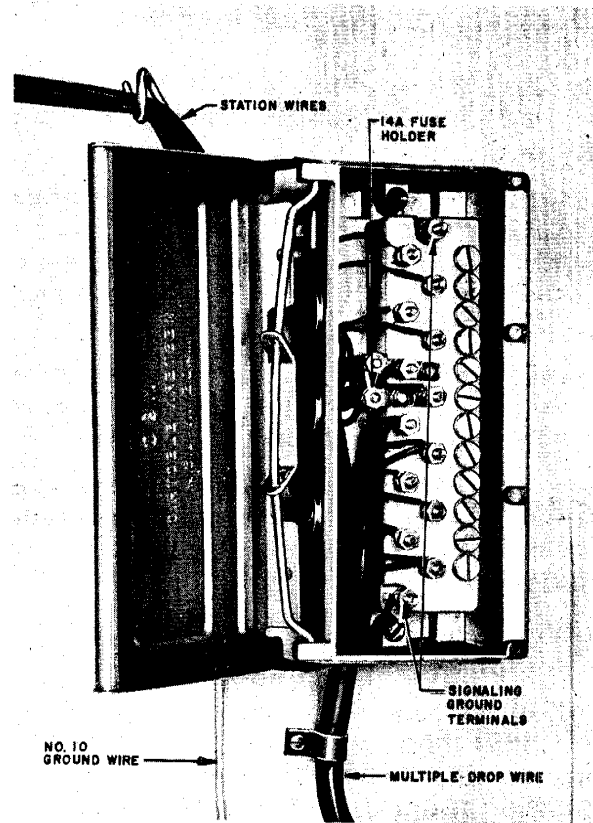
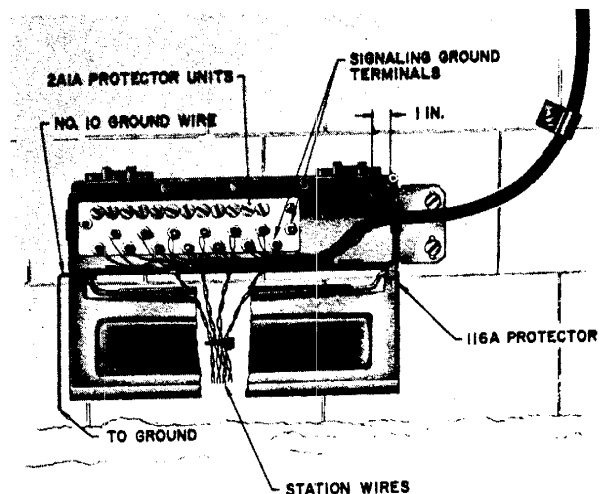

Fig. 4 — Wiring of 116C Protector
Fig. 5 — Wiring of 116A Protector
8.01 The 116C protector, shown in Fig. 4, consists of a metal housing equipped with a hinged metal cover and containing twelve No.
8.03 Wiring of 116C protector is shown in Fig. 4.
8.05 The 116C protector (Fig. 4) and the 116A protector (Fig. 5) are shown served by a multiple drop wire, but they can also be served by separate drop wires.
8.08 Wiring of 116A protector is illustrated in Fig. 5.
9.01 Sneak current fuses, when specified, may be added to the 116-type protector. A 14A fuse holder is used to mount the 60-type fuse on the protector (see Fig. 4).